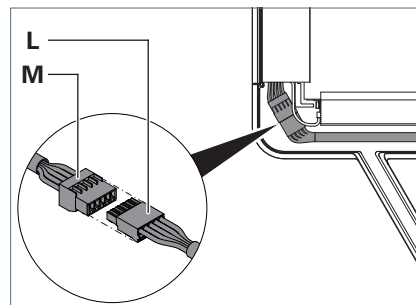

Fig. 7: Connecting the luminaire head, part 3.
- ▶ Connect the socket strip **L** to the pin strip **M** in the luminaire head, see Fig. 7.